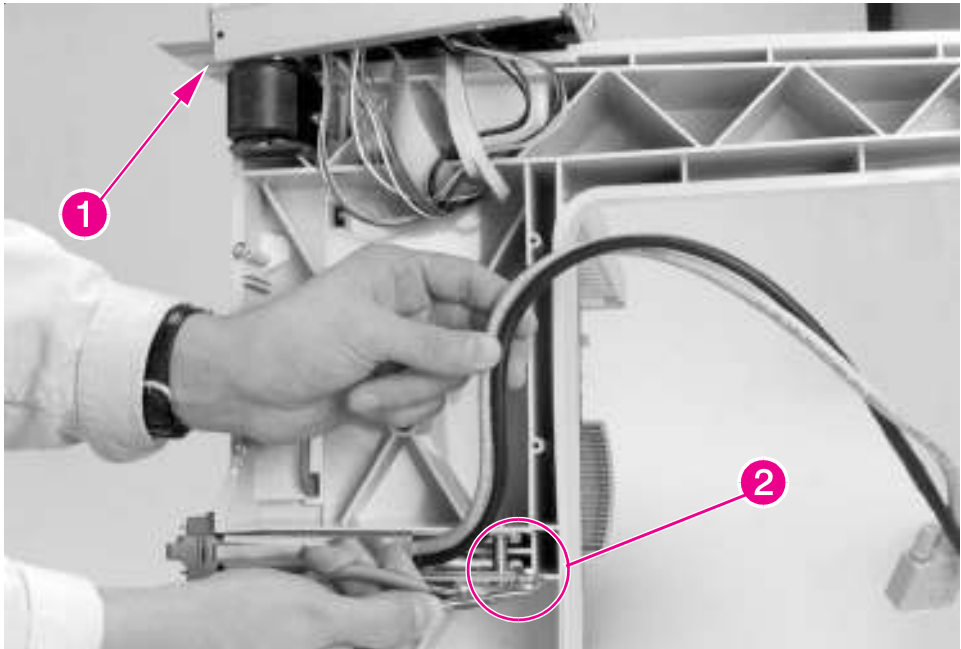

Figure 6-177 8-bin Mailbox Attachment Assembly
- 3 Set the Controller PCA on top of the 8-bin Mailbox unit (Figure 6-177, callout 1).